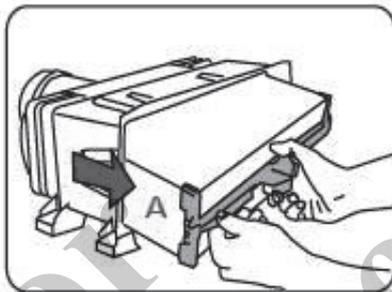

Fig. 195 Removing the main filter
- 2 Carefully remove the contaminated main filter (A) in Fig. 195.